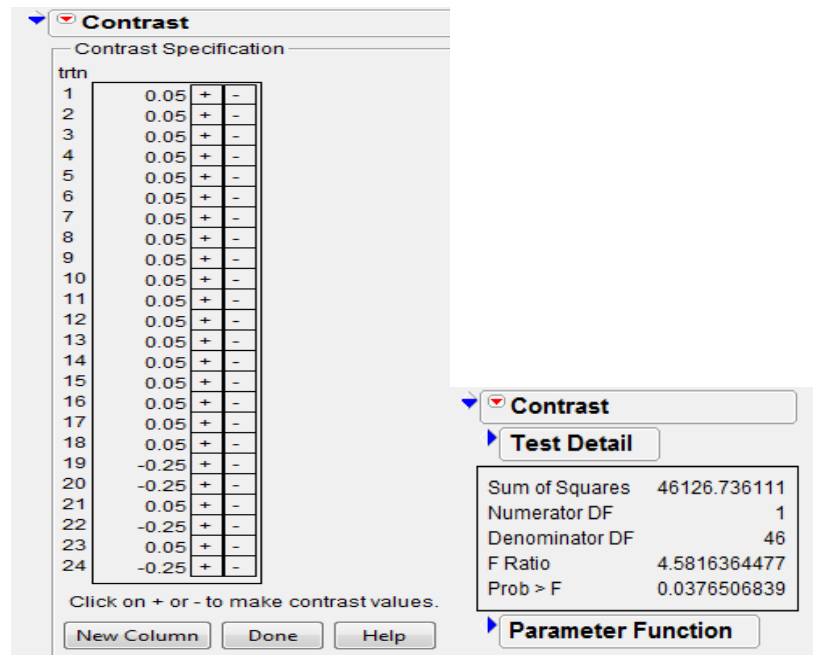

Figure 5.7.3: Contrast Analysis Output
6. For Contrast Analysis, click the **red** triangle and select **LSMeans Contrast...** and proceed as in the instruction. Click on + for strain varieties and - for check varieties and click **Done**. (See Figure 5.7.3)